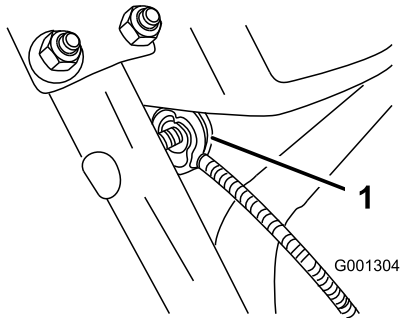

Figure 8
3. Remove the nut and washer from the handle, attach the cable clamp on the cable to the handle, install the washer and the nut, and tighten the nut by hand (Figure 8).